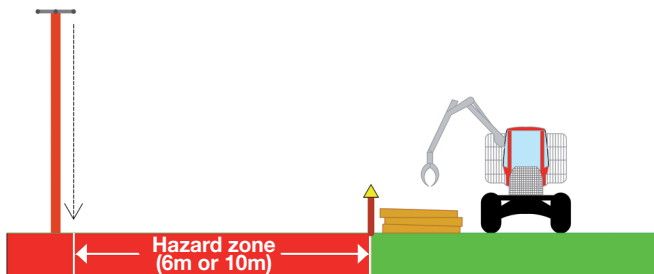

Figure 5
- Timber must be placed outside the OEL hazard zone to enable safe extraction when the OEL is re-energised. Extraction machinery must never encroach the OEL hazard zone (see figure 5.)
41 Do not operate a forwarder or skidder if any part of the machine or its load (product being lifted) is likely to come within Hazard Zone of energised OELs. Where necessary, clearly mark the limit of work in relation to the energised OELs (see Figure 5). Use high-visibility tape or other markings.